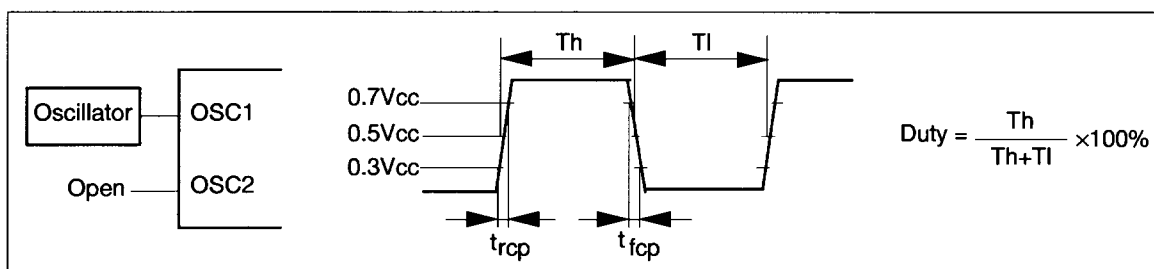

Figure 71 External Clock Supply
10. Applies to the external clock input (figure 71).